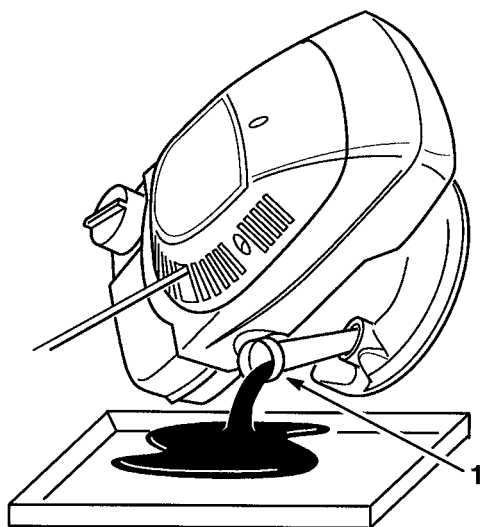

Figure 18
1. Drain oil from oil fill tube at dipstick (Fig. 18). Drain oil into appropriate container. Dispose of oil properly. Recycle per local codes.